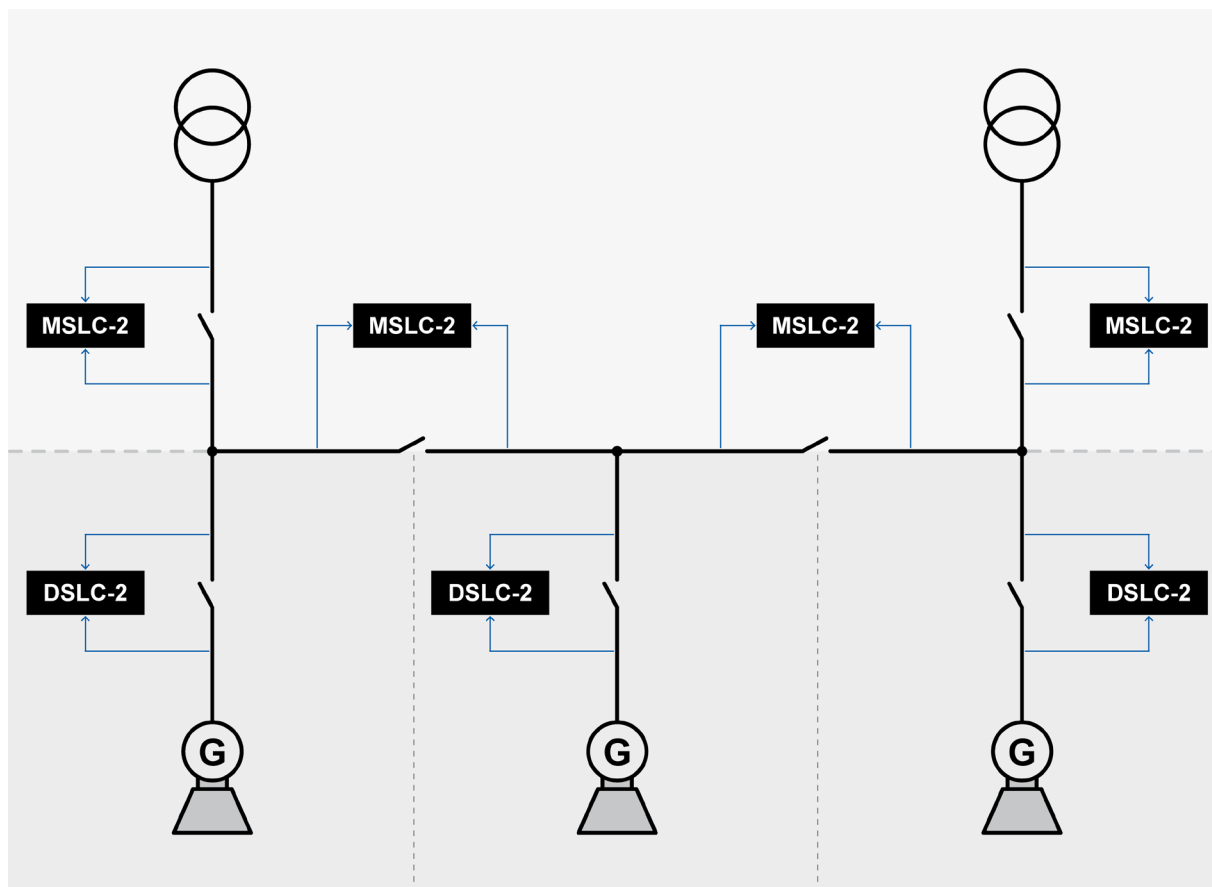

Figure 3-33: Example of an online diagram – step 1
1. Draw an online diagram of your application with all generators, breakers and utility inputs. Then arrange the DSLC-2 (and MSLC-2) at the according breaker. Refer to Figure 3-33.